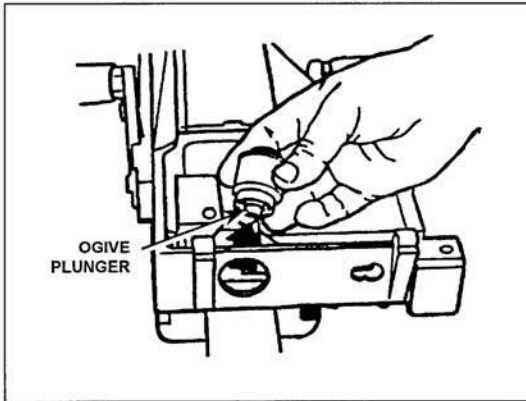

Figure 071-030-0001-11. Removal of the ogive plunger
- i.** Remove the round positioning block (figure 071-030-0001-12).